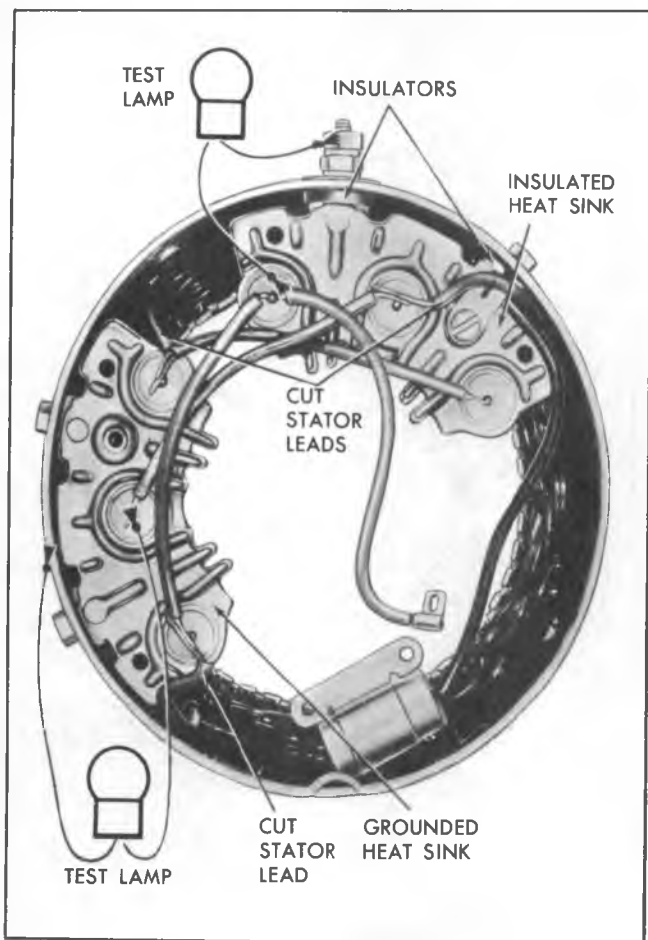

Fig. 6C—Checking Diodes
11. Disconnect the three stator leads by cutting the leads between coil and diodes (fig. 6C). An alternate method is to scrape epoxy coating from lead connections and unsolder stator leads, using a minimum amount of heat to avoid damage to diodes.
## TESTING DIODES (Fig. 6C)